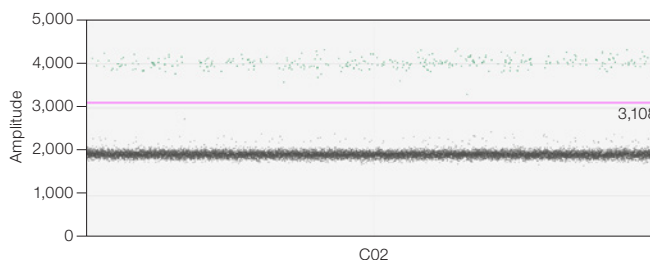

Fig. 1. 1D plot of a sample thresholded for the crAssphage template.
3. Based on user preference, select one of the threshold cluster modes (**Threshold Multiple Wells** or **Threshold Single Wells**). Thresholded samples are shown in Figure 1, where green indicates positive droplets for the crAssphage template, and gray indicates negative droplets.